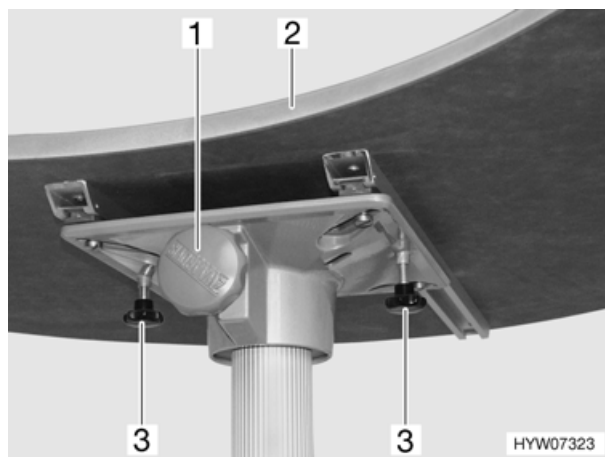

Fig. 24 Fixed table for the round seating group
- Undo the knurled screw (Fig. 24,1).
- Rotate the table-top (Fig. 24,2) into the desired position.
- Undo the knurled screws (Fig. 24,3).
- Rotate the table-top (Fig. 24,2) and push in the rails into the desired position.